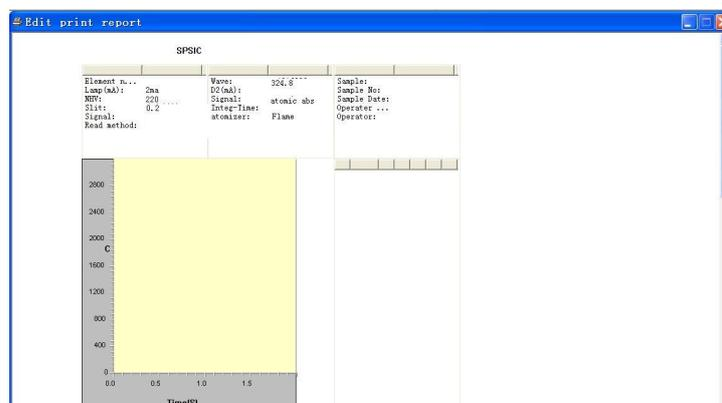

Figure 8-5
6. For example, to print the spectrum and data of time scanning, select "Time scanning", "Spectrum" and "Data", as shown in Figure 8-5.